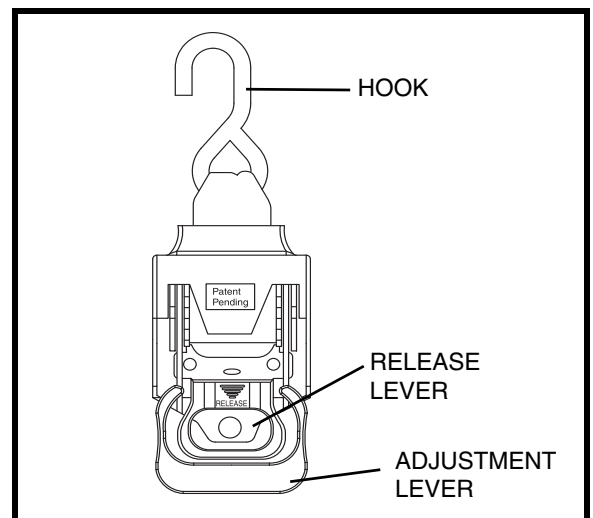

Figure 12. Retractable Tie-down Strap
3. Secure the mobility device to the platform using either the retractable tie-down straps (see **figure 12**) for power chairs or the automatic lock-down arm for scooters.
- Squeeze together the release and adjustment levers on the retractable tie-down strap and simultaneously bring both levers forward to a 90-degree position until they “click” into place. See **figures 12 and 13**. This will unlock the tie-down strap.
- Once each strap is secured in the proper position, squeeze together the release and adjustment levers and simultaneously bring both levers rearward to their original positions. See **figures 12 and 15**. This will lock the tie-down strap.